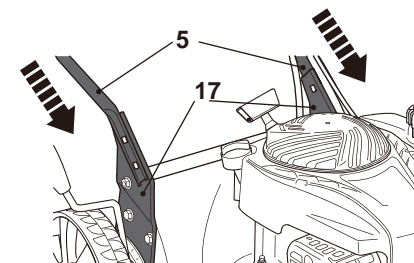

Fig. 3
3. Make sure the wires (4) run on the upper side of the handle bars (5).
4. Remove the covers from the lower handle bar (5).
5. Make sure the holes in the lower handle bar are aligned with those in the supports (Fig. 3).